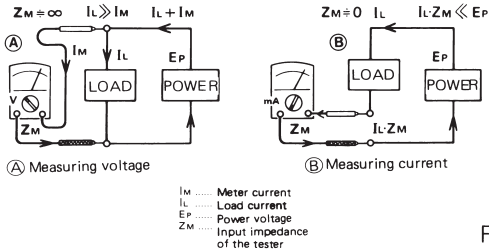

Fig. 1
Fig. 1 (A) is a standard measuring way of voltage while Fig. 1 (B) a standard measuring way of current. Voltage measurement is to detect the potential difference between two points, so the voltage range must be connected in parallel with measured circuit.
- Connect the tester range in series with measured circuit through load as Fig. 1 (B). Be sure not to apply any voltage to DCmA ranges.